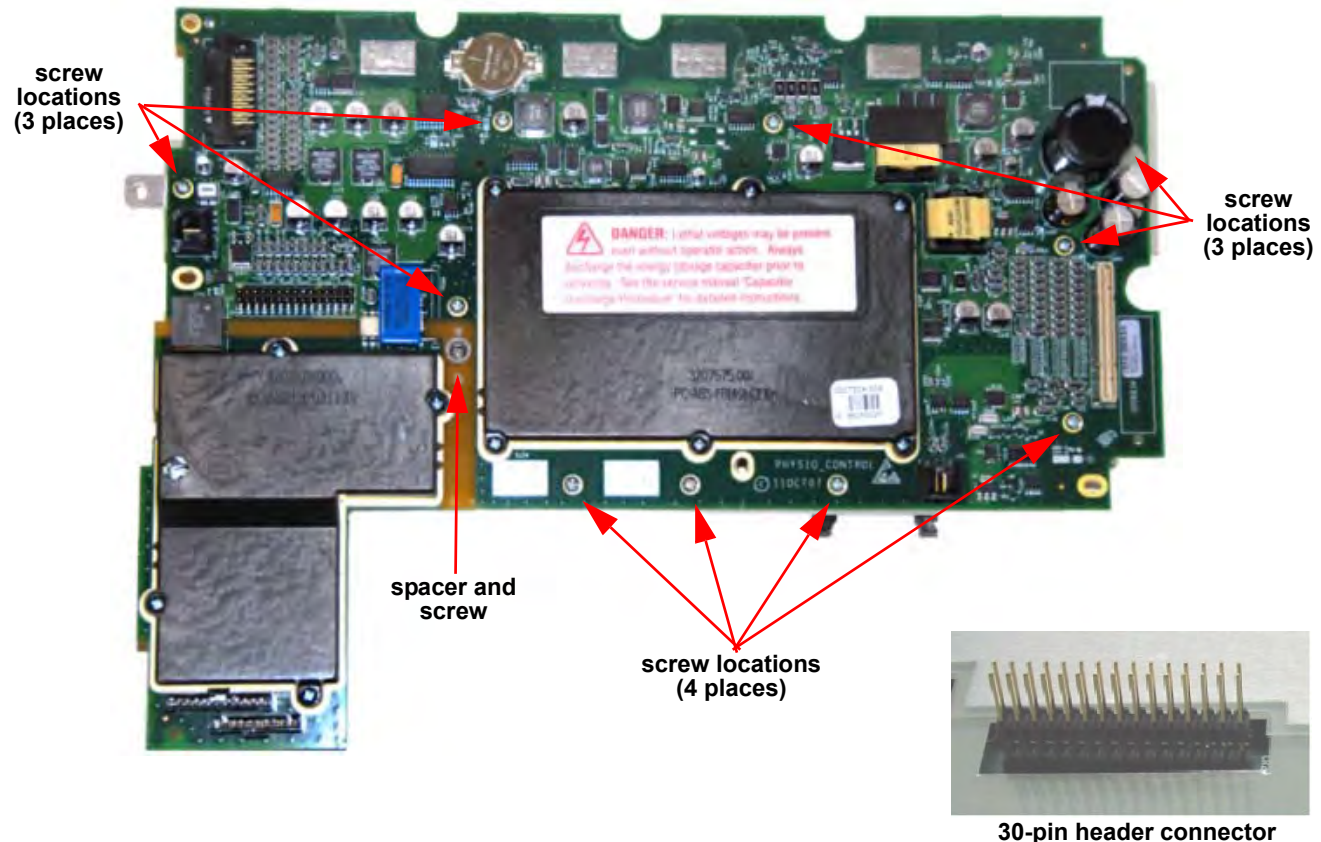

Figure 8.46—System/therapy PCB screw locations
4. Align the system PCB (3206834) with the mounting bracket and 30 pin header into J5. Fasten with ten new screws (202253-761); torque to 6.8 in-lb (see Figure 8.46 on p. 245).